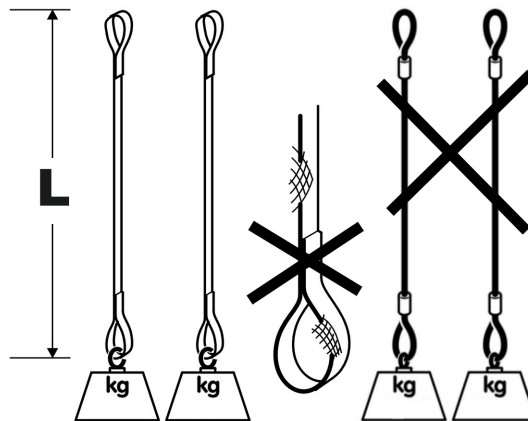

fig. 7.14
1. use two cables or chains of a minimum length of 4 metres and minimum capacity of 1000 Kg each, with eyelets at either end that should show no signs of wear (fig. 7.14);